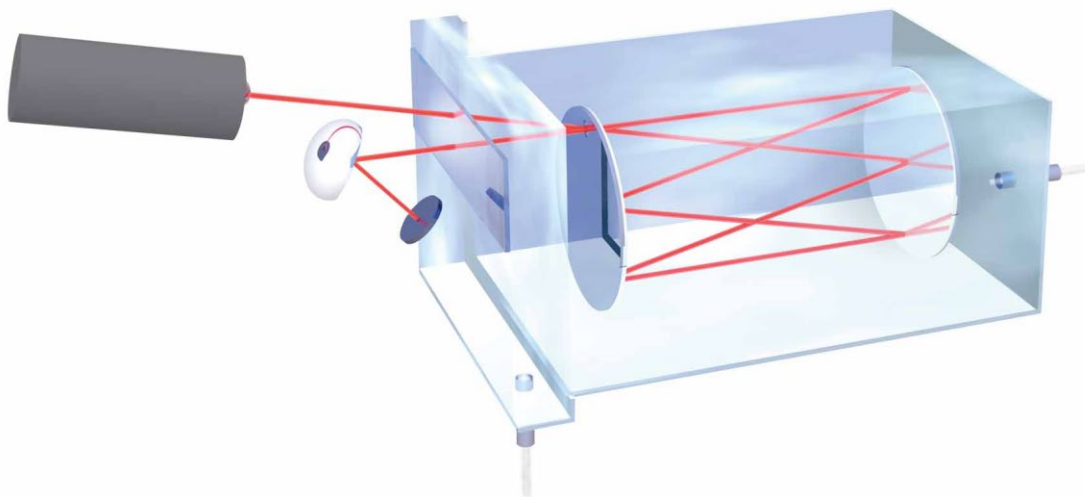

Figure 97: Schematic of Moisture Cell
The NanoTrace Moisture Analyzer uses infrared (IR) absorption as its detection method. IR absorption is a subset of the overall field of spectroscopy, which concerns the interaction of light and matter. A conceptual drawing of the type of moisture cell used in the analyzer (called a Herriott cell for physicist Donald R Herriott) is shown in **Figure 97**. The cell includes a laser light source, an enclosed cavity through which the sample gas passes, a system of mirrors and a light sensor.